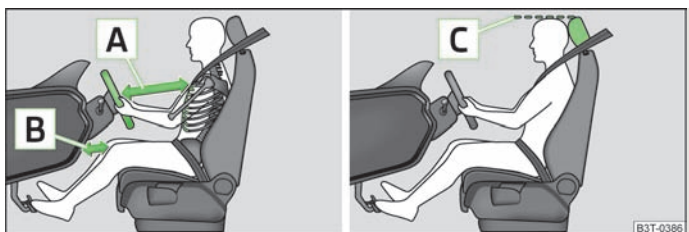

Fig. 115 The correct distance of the driver from the steering wheel and dash panel/The correct head restraint adjustment
- › Position the steering wheel so that there is a gap of at least 25 cm between the steering wheel and the chest » Fig. 115 **A**, and that the distance between the legs and the dash panel at the height of the knee airbag is at least 10 cm **B**.
- › Adjust the head restraint so that the top edge of the head restraint is at the same level as the upper part of your head » Fig. 115 **C**.
- › Adjust the head restraint so that the top edge of the head restraint is at the same level as the upper part of the head » Fig. 115 **C**.